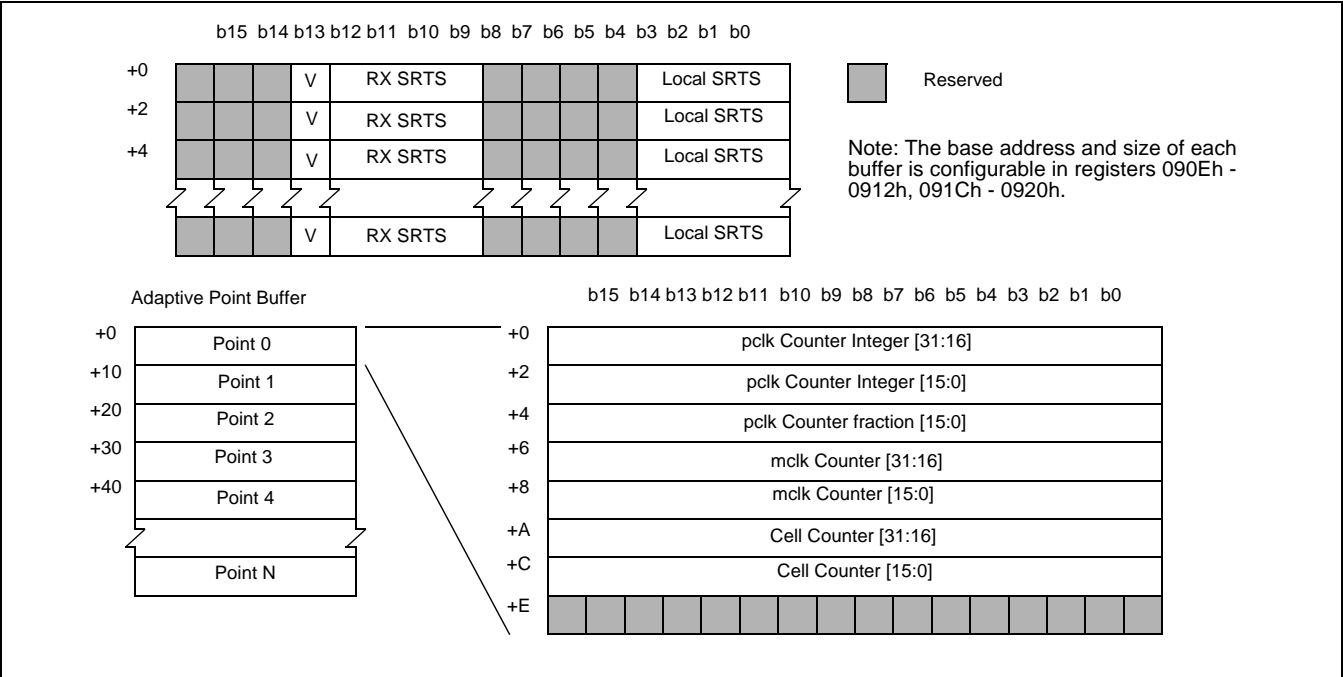

Figure 49 - Clock Recovery Information Buffers
Figure 49 on page 94 indicates the format of the circular buffers in external memory that contain SRTS and adaptive point information. In adaptive clock recovery, a point is the information pertinent to the reception of a single cell. In SRTS, a point is the information corresponding to reception of an SRTS value (gathered over eight cells). If the received SRTS value is corrupt (due to errors in the received cells) the valid bit (V) will be 0.